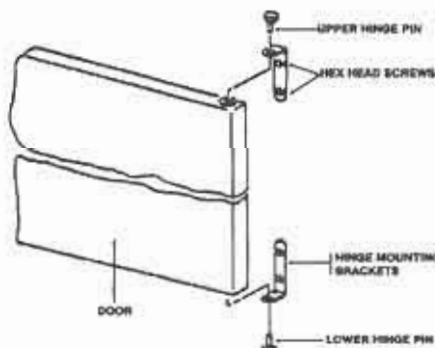
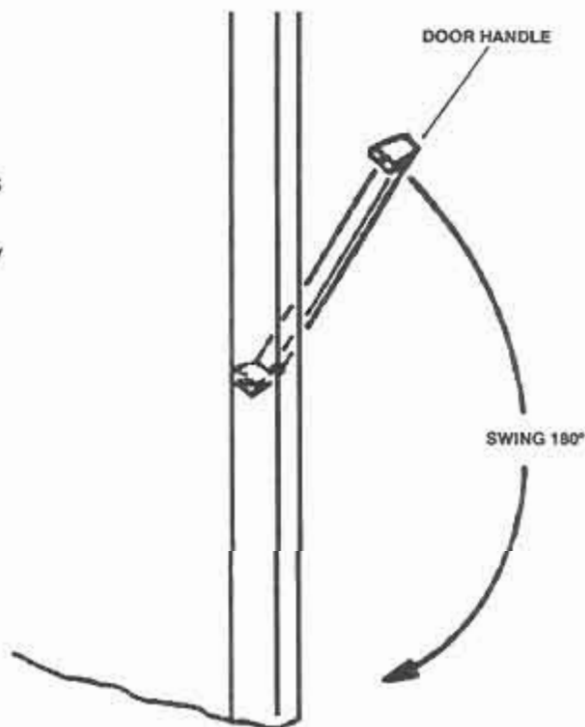

Figure 3-15. Door hinges.
Figure 3-18. Door handle.
c. Door swing conversion (fig 3-15 through fig 3-18).